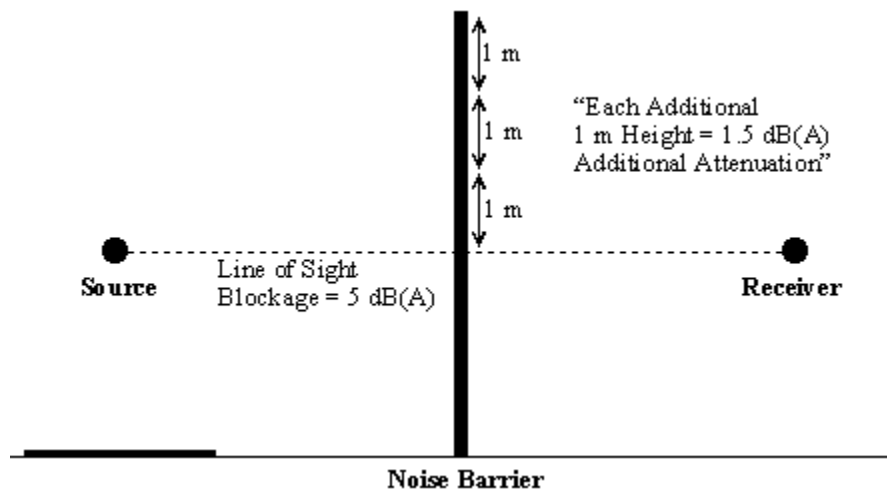

Figure 13. Line-of-sight
Typically, a 5-dB(A) IL can be expected for receivers whose line-of-sight to the roadway is just blocked by the barrier. A general rule-of-thumb is that each additional 1 m of barrier height above line-of-sight blockage will provide about 1.5 dB(A) of additional attenuation (see Figure 13).